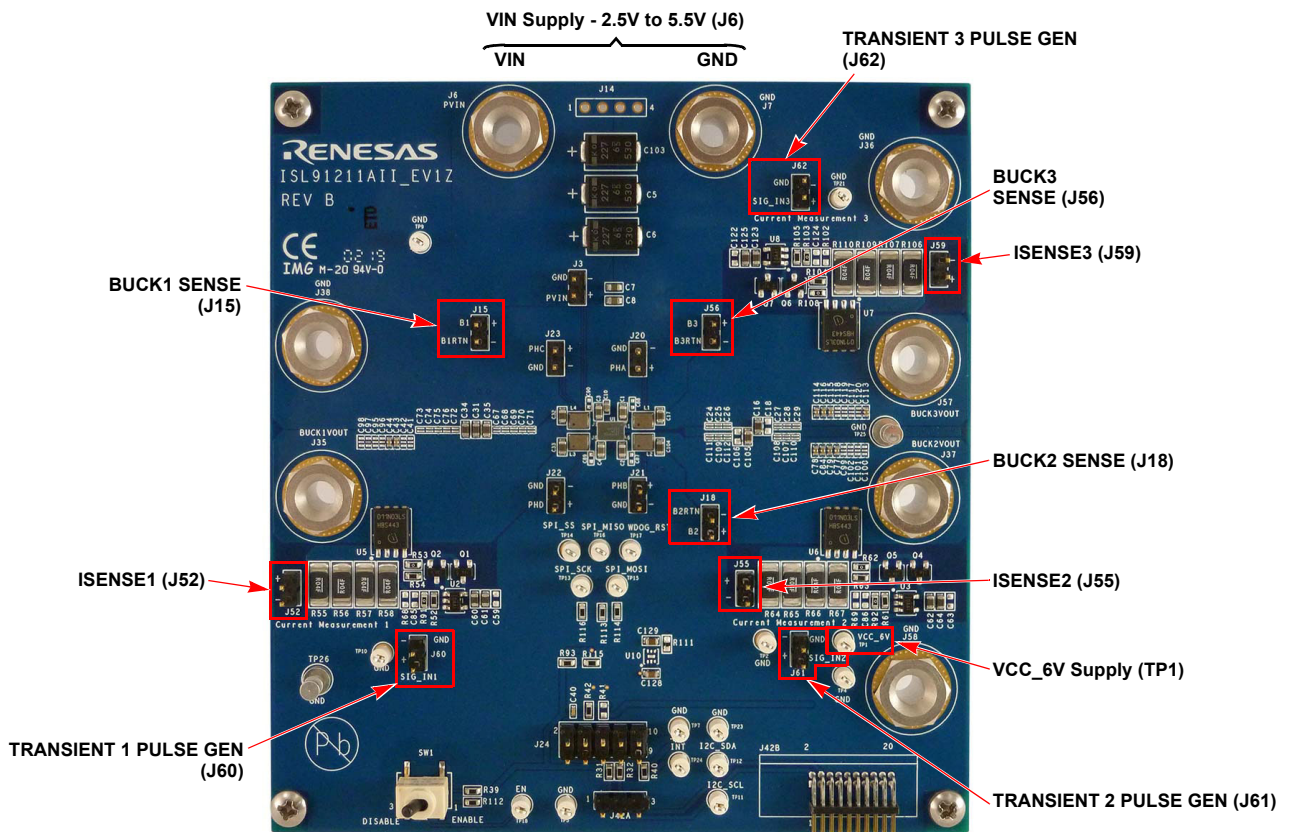

Figure 12. ISL91211AII-EV1Z Load Transient Measurement Connections
6. Set the oscilloscope to measure the rise and fall times and maximum level of the load current. Slowly increase the signal generator amplitude and slew rate until the desired load profile is achieved. For detailed setup information, see Figure 12 on page 11.